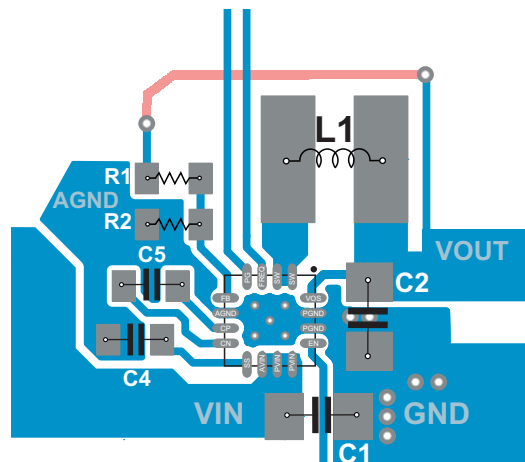

FIG 29. TPS6209x Layout
- Refer to FIG 29 and the evaluation module User Guide (SLVU670) for an example of component placement, routing and thermal design.